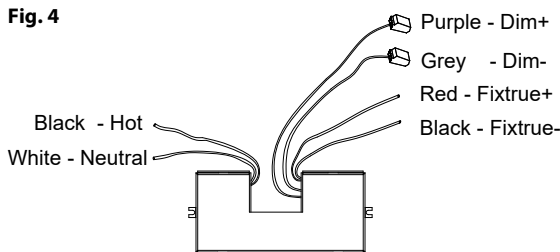

Fig. 5
6. Secure the fixture to the mounting back plate using the mounting screw (B) and rubber gasket (C).
7. To prevent moisture from entering the outlet box and causing a short circuit, use clear caulking (i.e. indoor/outdoor silicone sealant) to outline the outside of fixture back plate where it meets the wall, Leave a space at the bottom to allow moisture to escape(Fig.5).